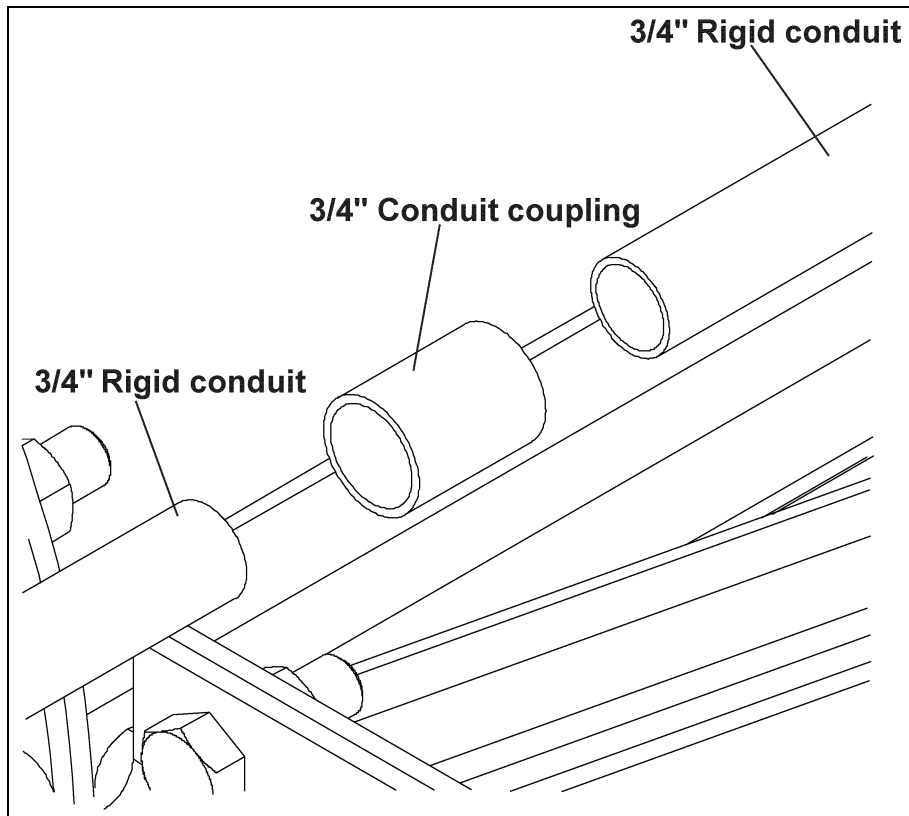

Figure 5AA
B. Connect the rigid conduit together using one (1) 3/4" conduit coupling between each piece of conduit. (See Figure 5AA)